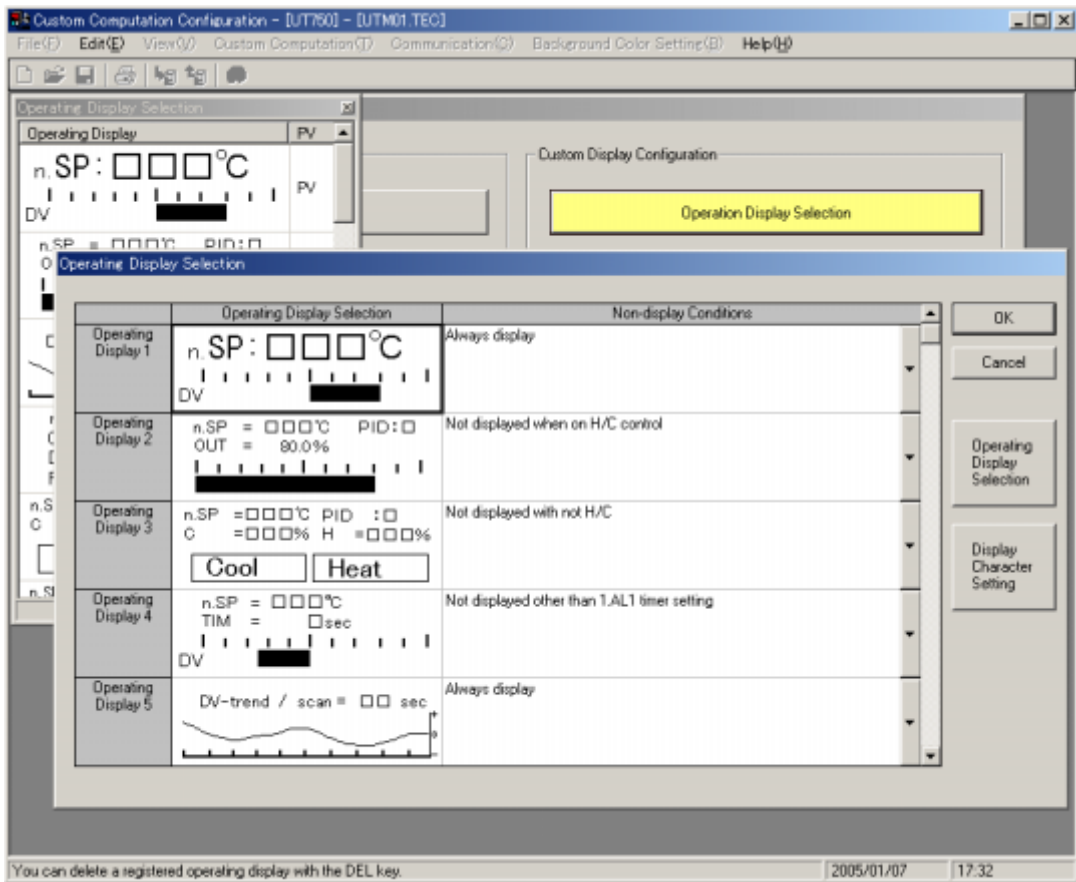

Figure 5.2.7
- (4) After registering operating displays, set the display conditions. Click the Display Conditions drop-down list box (Figure 5.2.7).